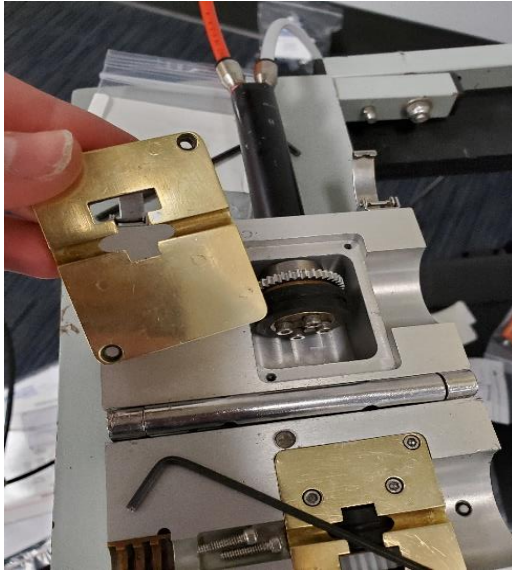

Figure 35
13.5.1.3 Carefully remove Lower Brass Plate. Do not force. If a tight fit is encountered, very gently pry plate out being extremely careful not to gouge brass plate. **See Fig. 35.**